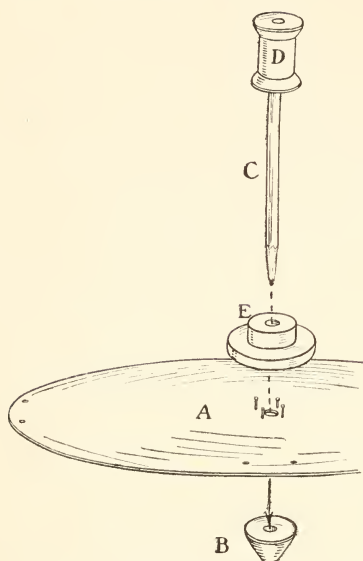
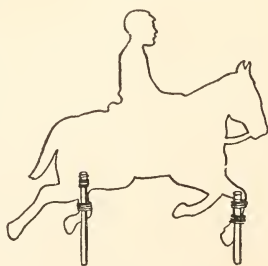
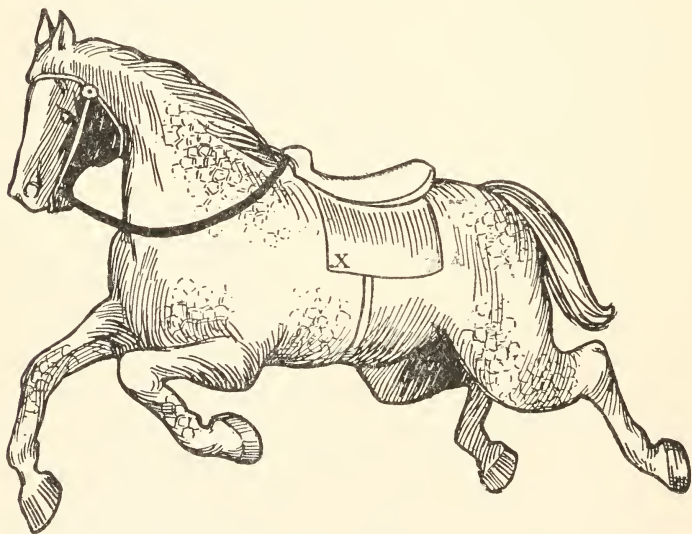
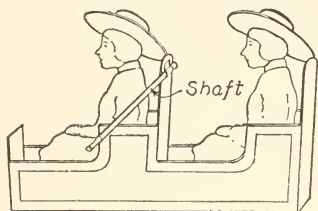

FIG. 133. — Detail of Merry-go-round Top.
FIG. 134. — How Horses are Mounted upon Top Platform.
FIG. 143. — Full-size Pattern for the Horses of the Merry-go-round.
FIG. 145. — A Completed Sleigh showing Attachment to Shaft.
Figure 133 shows the details for this top. If you haven't a compass, use a large-sized dinner plate with which to draw the circumference of the disk (*A*). Then cut a conical-shaped piece of spool (*B*), stick the lead-pencil through it for a spinning point (*C*), punch a hole through the disk to fit over the pencil, and tack the disk to *B*. Cut
go-round may be prepared like those of the clockwork merry-go-round in Chapter X (Figs. 143, 146, and 147). Figure 134 shows how two burnt matches or toothpicks are lashed to the legs of the horses for supports, and Fig. 133 shows how holes are pierced through the disk platform to stick them in.
**The Horses.** A full-size pattern for these is shown in Fig. 143. Take a piece of *tracing-paper* or any thin trans-
in the flaps and glue them to the dashboard and to the back. Cut two seats by the pattern given, bend down the flaps and glue them to the sides of the sleigh, and make the back for the front seat like that on the back seat (Fig. 145). Then make another sleigh similar to the one just completed, for two are required for the merry-go-round. Paint the sleighs green or yellow with trimmings of a lighter shade.
To fasten the horses to the shafts, punch a hole through three of them at *X* (Fig. 143) and slip each one over a shaft, then tack the other three horses to the ends of these shafts at the point *X*. To fasten the sleighs to the remaining shafts, glue one end of a piece of paper to the back of the front seat and the other end around the shaft (Fig. 145).